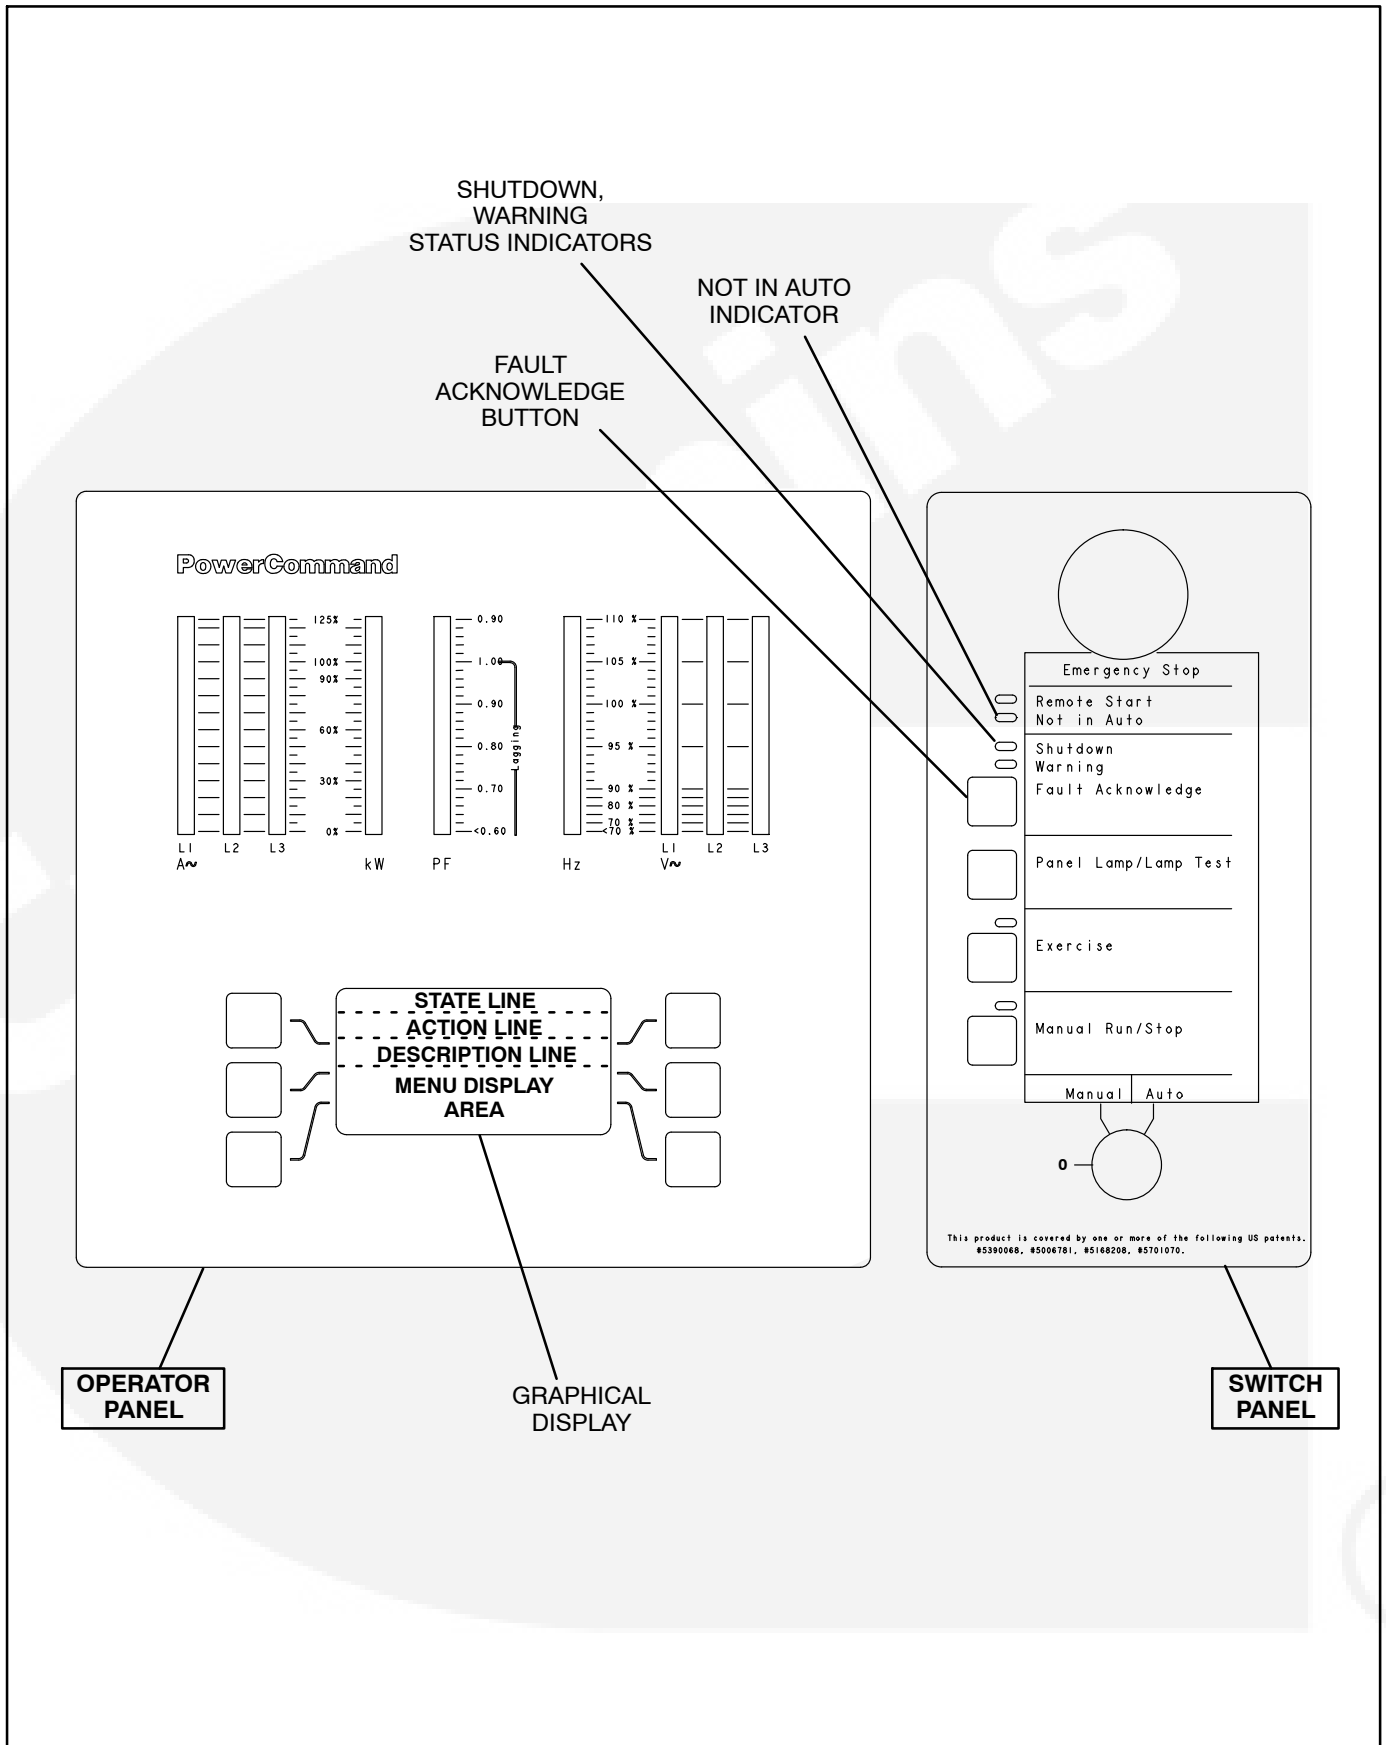

FIGURE 4-1. FRONT CONTROL PANEL (FULL-FEATURED)
Not In Auto Indicator: This red lamp flashes continuously when the O/Manual/Auto switch is not in the Auto position (Figure 4-1).
If the genset contains the optional graphical display and a fault occurs, the fault code/message will be displayed in the display Description Line (Figure 4-1). If the control does not contain the graphical display, the fault code is read from the Warning and Shutdown status indicators.
- *State Line* – modes of operation, such as Stopped, Time Delay To Start, Warm Up At Idle, etc. (see Figure 4-1), and paralleling operations, such as Standby, Dead BUS Close, Synchronize, etc.